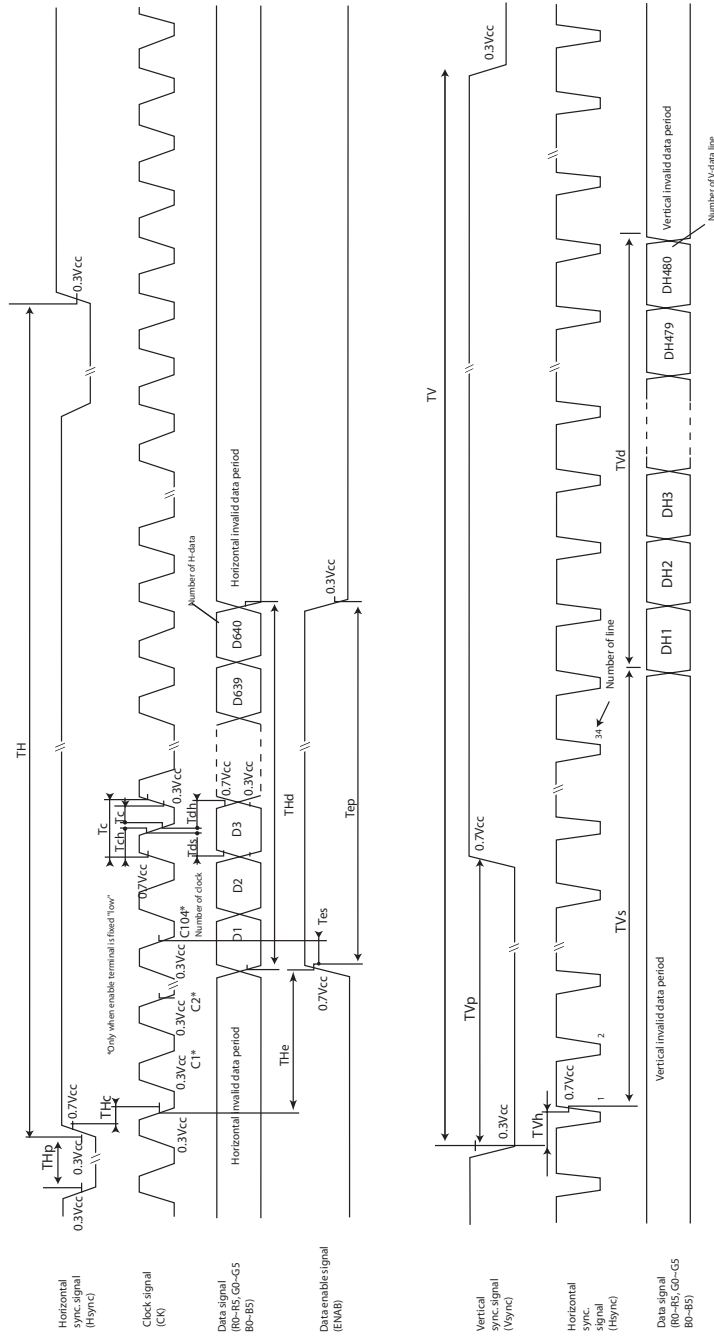

Fig 2-1 Input signal waveforms (480 line mode)
Timing diagrams of input signal are shown in Fig. 2-1~3.
- When ENAB is fixed at "Low", the display starts from the data of C104 (clock) as shown in Fig. 2-1~3. Be careful the module does not work when ENAB is fixed "High".